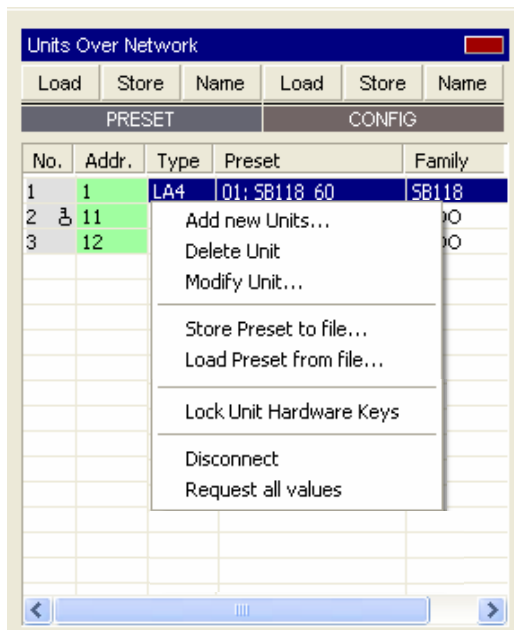

Figure 14: The “Right Clicking” menu
- Right click on a Unit: the “**Right Clicking**” menu is displayed (see Unit #1 in Figure 14). All the selectable functions are described below.
When a Unit is locked a "key" is displayed in the corresponding "No." cell (see Unit #2 in Figure 14).
**Note:** The Unit mode is indicated by the color of the IP Address cell: **green** or **blue** for the Online Mode and **pink** for the Offline Mode (see Figure 13 and Figure 14).